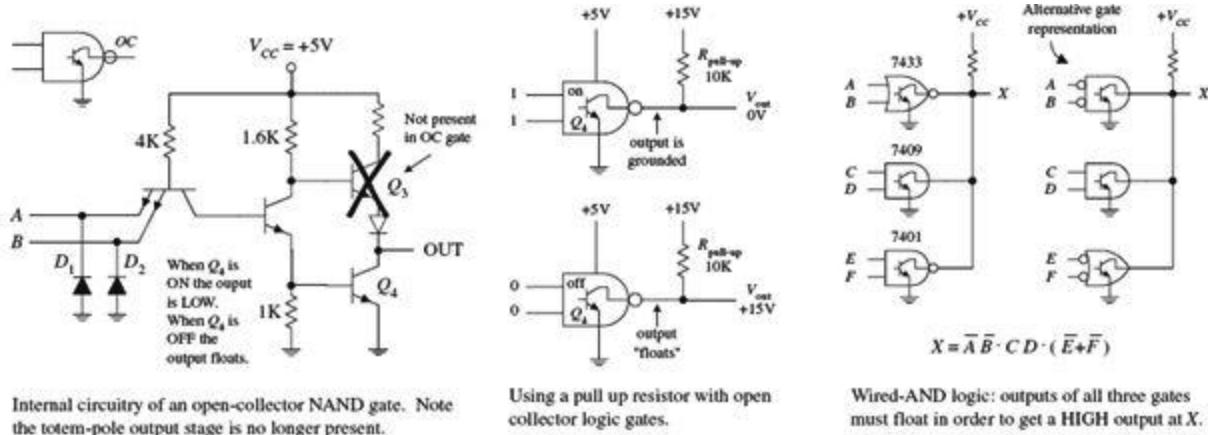

FIGURE 12.62
Figure 12.62 shows a NAND gate with open-collector (OC) output. Notice that the Q_3 transistor is missing in the OC NAND gate. By removing Q_3 , the output no longer goes high when A and B logic levels are set to 00, 01, or 10. Instead, the output floats. When A and B logic levels are both high (1), the output is grounded. This means that the OC gate can only sink current; it cannot source current! So how do you get a high output level?
You use an external voltage source and a pullup resistor, as shown in the center of Fig. 12.62. Now, when the output floats, the pullup resistor connected to the external voltage source will “pull” the output to the same level as the external voltage source, which in this case is at +15 V. That’s right—you don’t need to use +5 V. That is one of the primary benefits of using OC gates: you can drive load-requiring voltage levels different from those of the logic circuitry.
When working with OC gates, you cannot apply the same Boolean rules you used earlier with the standard gates. Instead, you must use what is called wired-AND logic, which amounts to simply ANDing all gates together, as shown in Fig. 12.62. In other words, the outputs of all the gates must float in order to get a high output level.